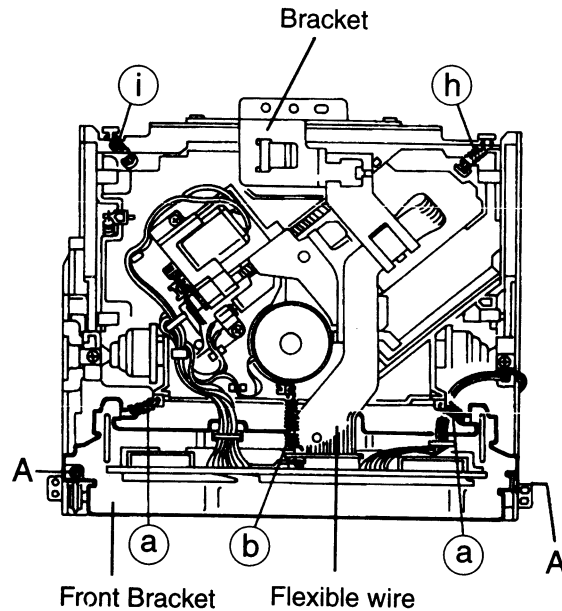
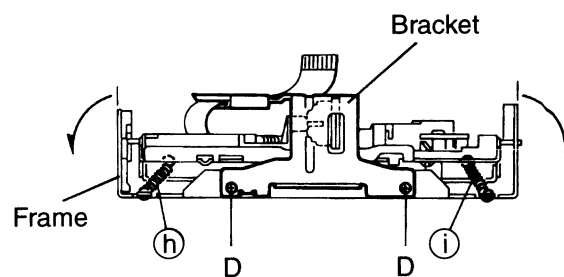
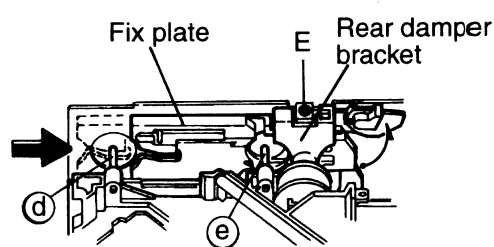
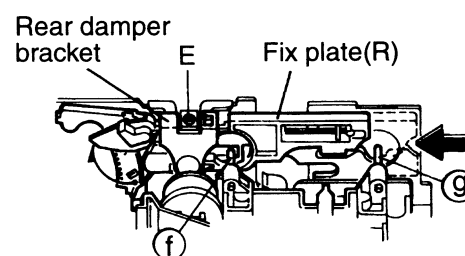

Fig. 9
Fig. 15
Fig. 16
Fig. 17
2. Remove the three springs (a) and (b) from behind the CD mechanism assembly (See Fig. 9).
3. Disconnect the flexible wire connected to the connector on the CD mechanism control P.C.board (See Fig. 9).
6. Remove the two screws A retaining the front bracket for fixing the CD mechanism control P.C. board (See Fig. 9).
1. Remove the two screws D retaining the bracket for fixing the damper (See Fig. 15)
2. When shifting the fix places on the right and left sides respectively to the arrow direction, lower the entire CD mechanism. When the shafts (d, e, f and g) on both the right and left sides have been set free as shown in Fig. 16 and Fig. 17, then the assembly can be removed easily. Remove the two screws E retaining the rear damper bracket to make it easier to remove the damper from the rear damper bracket (See Fig. 9, Fig. 16 and Fig. 17).
3. Remove the two springs (h) and (i) as shown in Fig. 9 and Fig. 15.